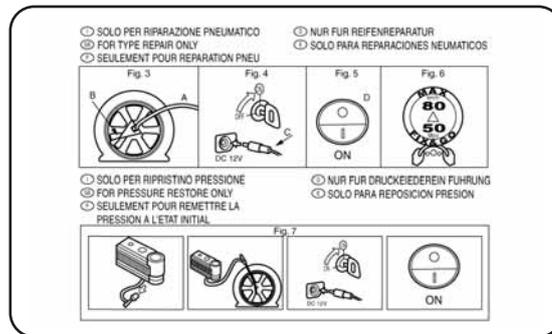

fig. 3
- informative leaflet (see fig. 3), used to ensure the correct use of the quick tyre repair kit and then given to the personnel who will handle the treated tyre;